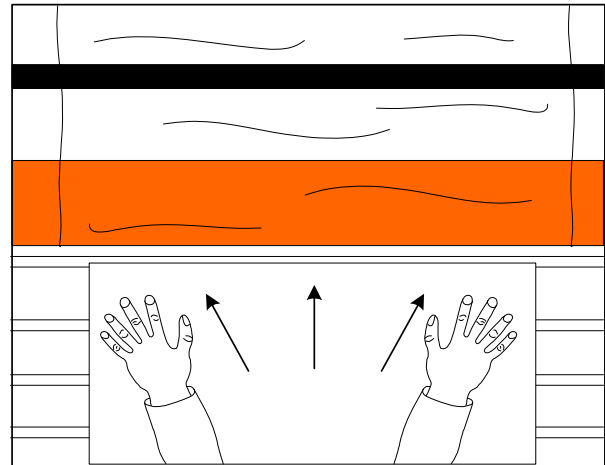

FIGURE 26
10. Use both hands to force the image outward and slowly push inward toward the nip of the heat rollers (Fig. 26).